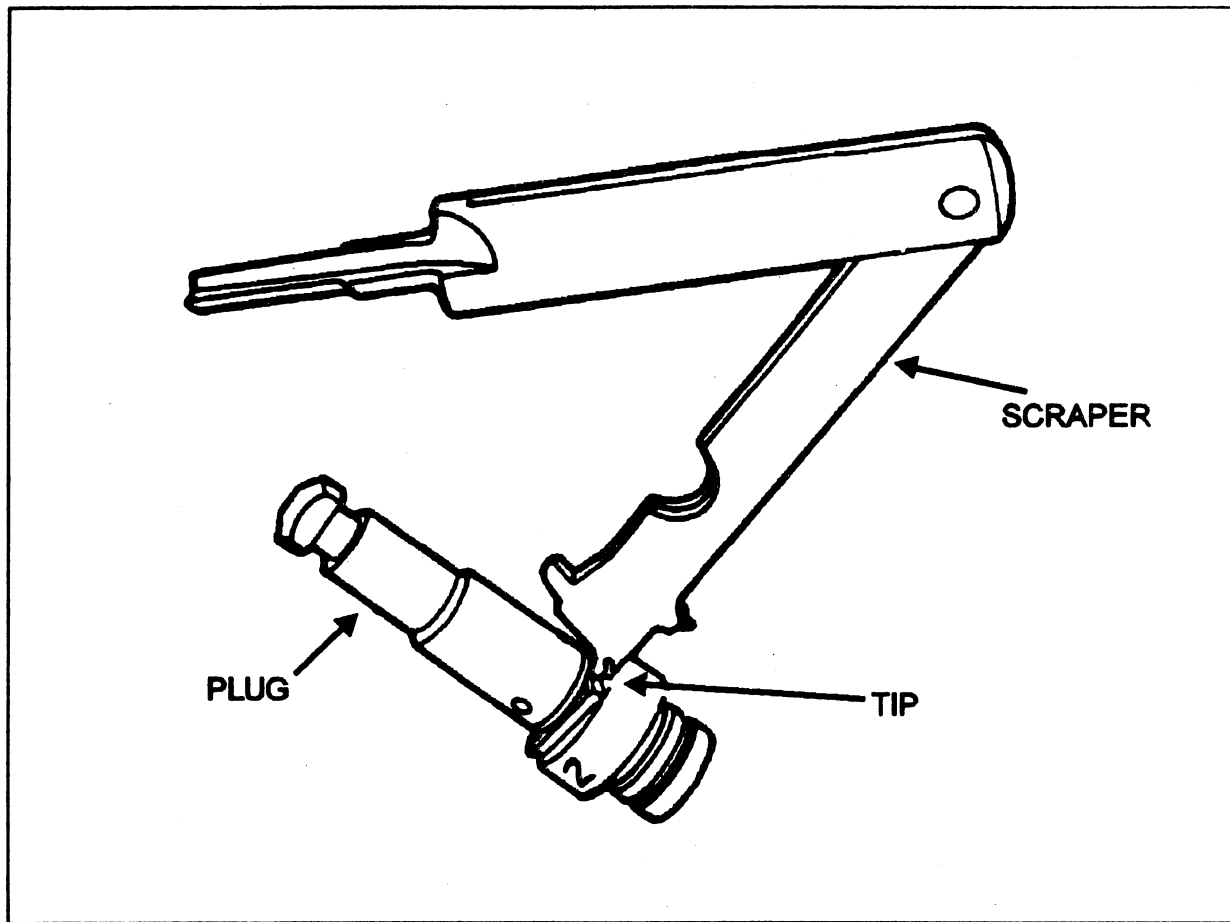

Fig 1-25. Cleaning the plug surfaces.
- (4) Scrape carbon from surfaces of the plug with the tip of the scraper (see fig 1-25).